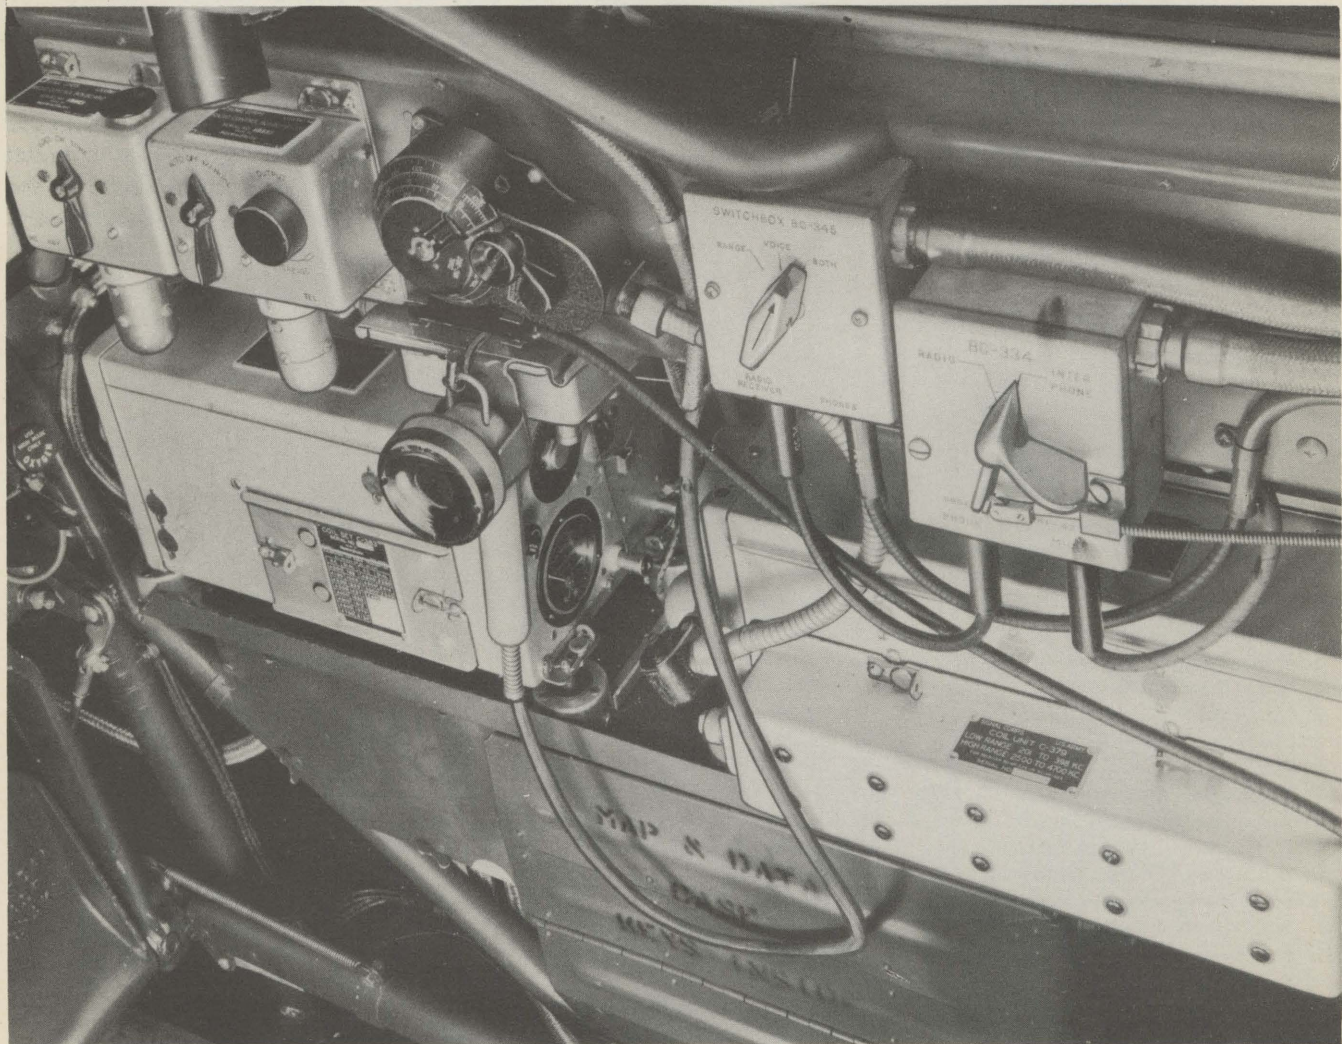

FIG. 2—RADIO CONTROLS—RIGHT SIDE OF FRONT COCKPIT
(1) RECEIVER EQUIPMENT (See figures 2 and 3.)—Radio receiver BC-AL-229 consists of a set-box including the supply and coupling circuits, tubes, sockets, power terminals and plug-in coil terminals required for the reception of radio signals. The receiver comprises four stages of radio frequency amplifica-